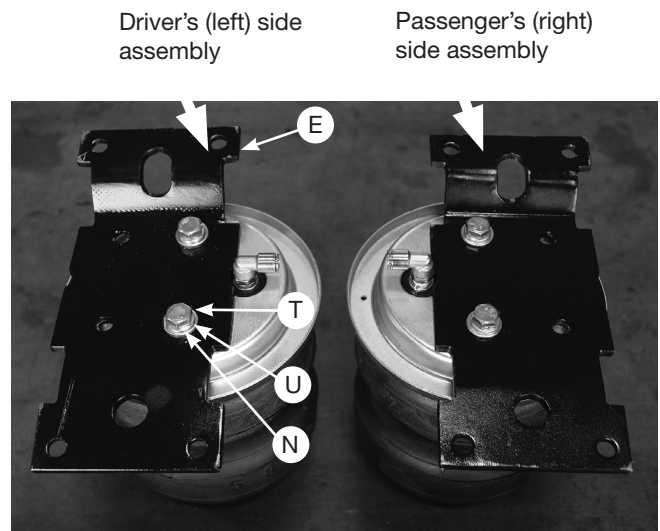

Fig. 9
- Set the upper air spring bracket (E) onto the top of the air spring using one set of holes with the 3/8"-24 x 7/8" hex-cap screw (T), 3/8" lock washer (U) and 3/8" flat washer (N) (Fig. 9). Install the remaining air spring bracket onto the remaining air spring, using the opposite holes from those that were previously used. This makes the air spring assemblies into left- and right-hand units. Torque the hardware to no more than 20 lb.-ft. (27Nm).
- When installing the lower brackets onto the air spring assemblies already assembled (step 2, Fig. 9), if you have a sway bar equipped vehicle, make sure the lower bracket assembly you assembled for the passenger's (right) side, is assembled on the passenger's (right) side air spring assembly. Using the holes specified in step 4, for vehicles not equipped with sway bars, it will not matter which assembly the lower bracket fits on.